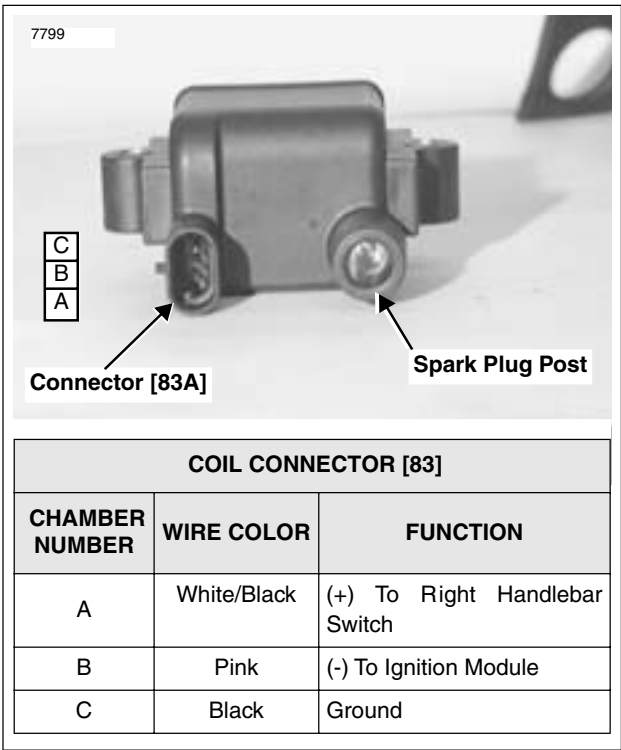

Figure 7-27. Coil Viewed From Bottom
- 6. See Figure 7-27. Disconnect coil connector [83].